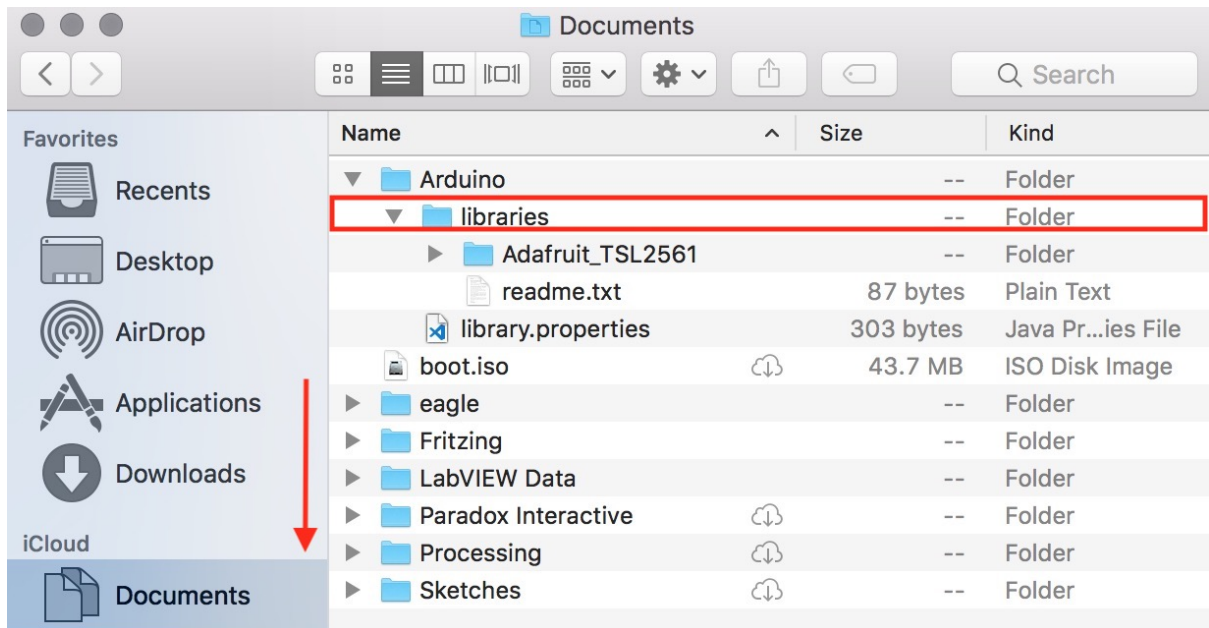

Figure 7: Arduino Folder Location - Mac.
3. The final step is to move this folder into the place our Arduino app will be expecting to see it. On a mac, this location can be found in your "Documents" folder. Opening your finder, you'll find this on the left sidebar. See figure 7 for a guide. On a PC, this libraries folder will be located in "Documents/My Documents". In either case, if the folder doesn't exist then make it in this location.